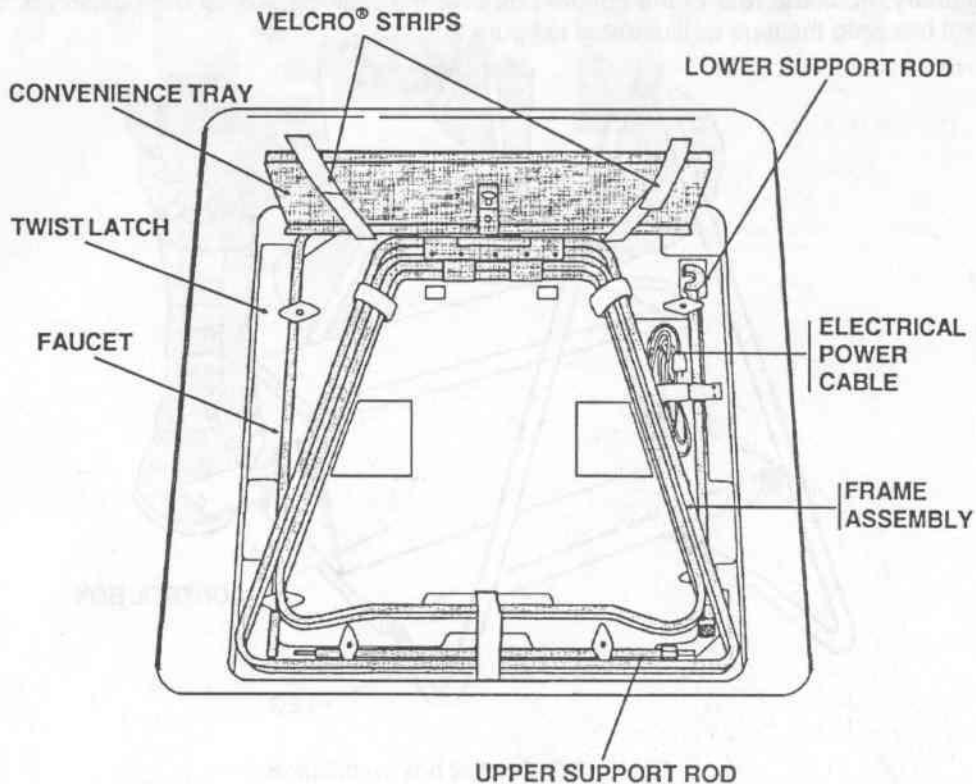

Figure 2-3. Case lower level packing configuration.
g. Unpack the lower level of the case (as illustrated in figure 2-3) by either pulling the VELCRO® strips upward or turning the twist-lock latches. The components stored in this lower level include the following items:
- (1) Convenience tray
- (2) Frame assembly
- (3) Upper and lower support rods
- (4) Faucet
- (5) 230-volt electrical power cable